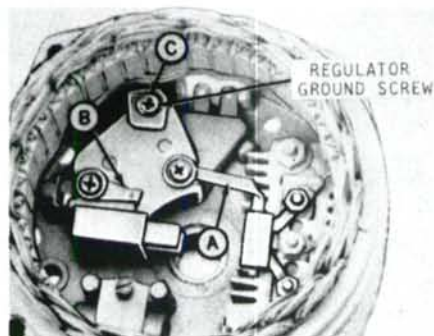
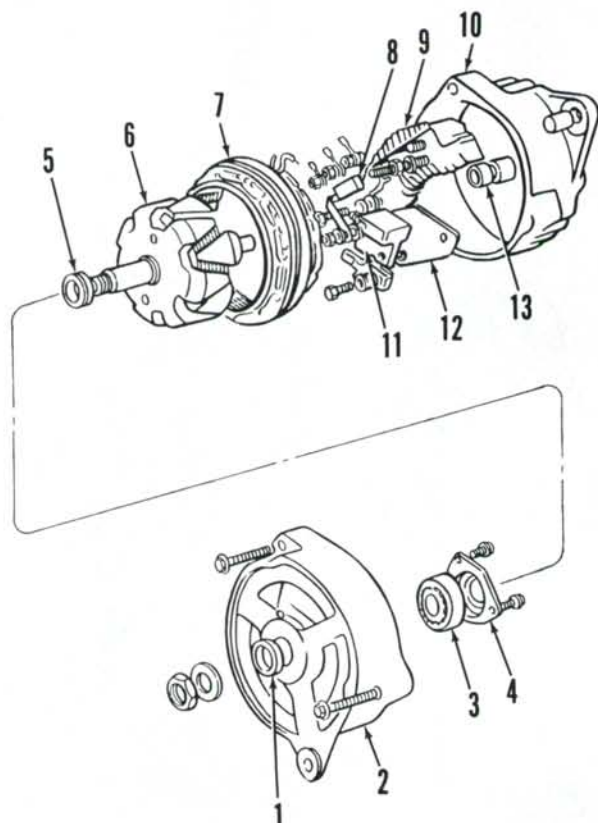
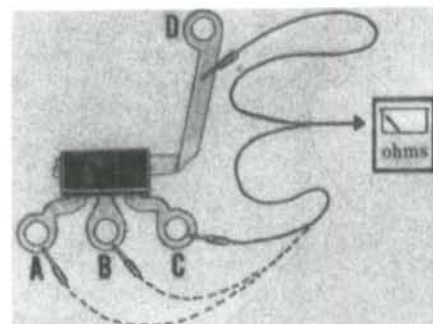

Fig. 136—Screws at "A" and "B" connections must use insulating washers. Screw at "C" is a ground connection.
Fig. 135—Exploded view of Delco alternator used on some tractors.
Fig. 137—Connect ohmmeter as shown to test diode trio as outlined in paragraph 178.
174. DISASSEMBLY. Scribe alignment marks across alternator housings to ensure proper reassembly. Remove housing retaining bolts, then separate drive end housing (2—Fig. 135) and
rotor (6) from rear housing (10). Remove retaining nut, pulley and fan from rotor shaft and withdraw rotor from housing. Remove retainer plate (4) and bearing (3). Note location of insulating washers under screws at "A" and "B" connections (Fig. 136) at brush holder, then remove retaining screws and nuts. Remove diode trio (8—Fig. 135), brush holder (11), regulator (12) and rectifier assembly (9). Press needle bearing (13) inward to remove from housing.
178. DIODE TESTS. To test diode trio (8—Fig. 135), connect a battery operated ohmmeter lead to diode trio at "D", Fig. 137 and remaining lead to
179. REASSEMBLY. Note position of insulated washers (Fig. 136) when reassembling. If needle bearing (13—Fig. 135) is being renewed, press new bearing into housing from the outside until bearing is flush with outside of end frame. Push brushes against spring pressure, then insert a plastic pin or toothpick through holes in brush holder and end frame to hold brushes in retracted position. Be sure to align scribe marks when assembling housings. Make certain that pin retaining the brushes is removed after housings are assembled.